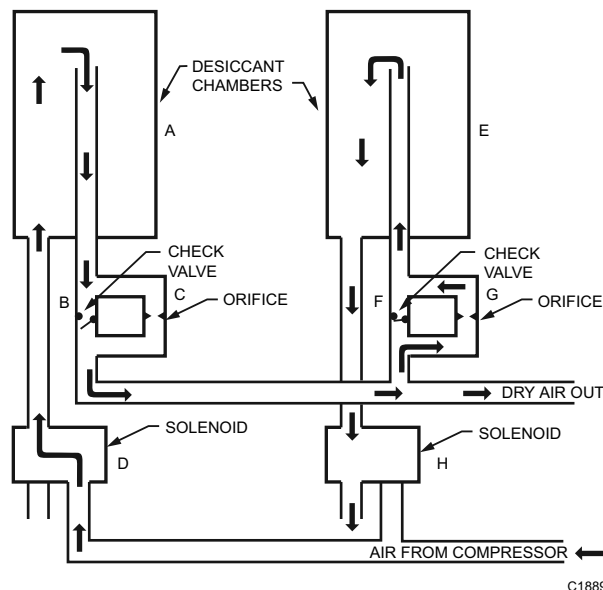

Fig. 15. Typical Heatless Desiccant Dryer Airflow Diagram.
A desiccant is regenerated either by heating the desiccant material and removing the resulting water vapor from the desiccant chamber or by flushing the desiccant chamber with air at a lower vapor pressure for heatless regeneration. To provide a continuous supply of dry air, a desiccant dryer has two desiccant chambers (Fig. 15). While one chamber is being regenerated, the other supplies dry air to the system. The cycling is accomplished by two solenoid valves and an electric timer. During one cycle, air passes from the compressor into the left desiccant chamber (A). The air is dried, passes through the check valve (B), and flows out to the PRV in the control system.